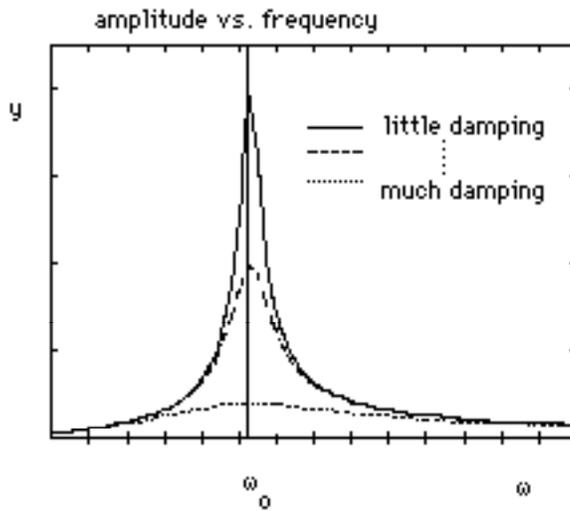

FIGURE 2A
In this experiment, we measure directly two quantities shown in Fig. 2a/b as a function of frequency:
$\omega_0 = \sqrt{k/m}$ . In fact, as noted above, it is shifted down a little in angular frequency to  $\sqrt{k/m - R^2/2m^2}$ . In general, for small damping, the amplitude resonance curve looks very similar near the resonance to Fig. 2a for the resonance.
6. Plot  $x_m$  and  $\theta$  each as a function of frequency, displaced vertically, in the fashion of Fig. 2a and 2b. Find and mark on the graphs the frequency corresponding to the peak in the resonance curve and to phase  $\theta = 90^\circ$ . Then, compare these frequencies to your experimental natural frequency result in part 2. Use CricketGraph software if computers are available.